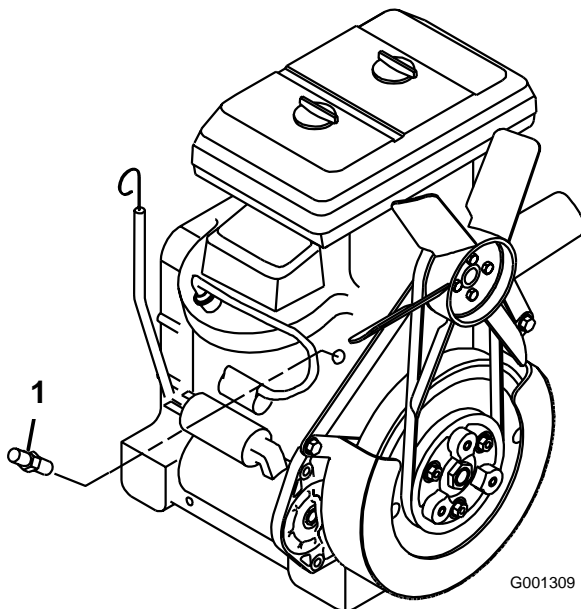

Figure 1
2. Disconnect the wires from the temperature sender on the engine (Figure 1).
3. Remove the temperature sender from the engine adapter (Figure 1). Do not remove the sender adapter from the engine.